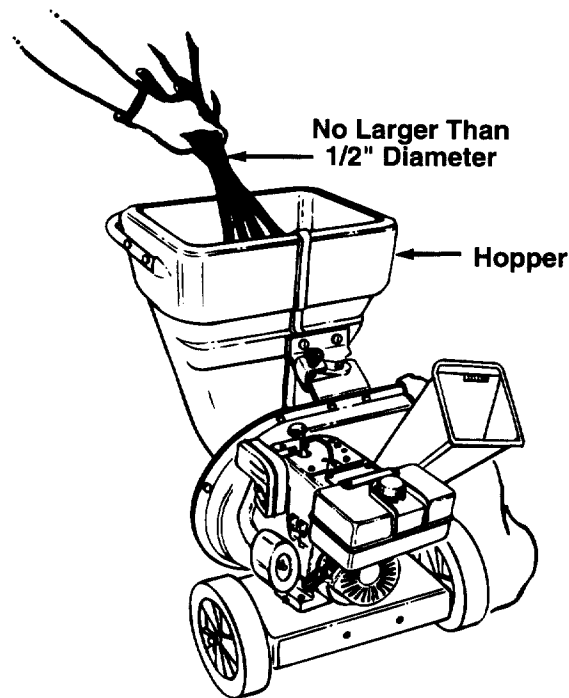

FIGURE 6.
1. Leaves and small branches up to 1/2" diameter can be fed into the hopper when it is in the raised position. See figure 6. If it becomes necessary to push material into the shredder, use a small diameter stick—NOT YOUR HANDS. The stick cannot exceed 1/2" in diameter so it will be ground up if it gets into the impeller assembly.